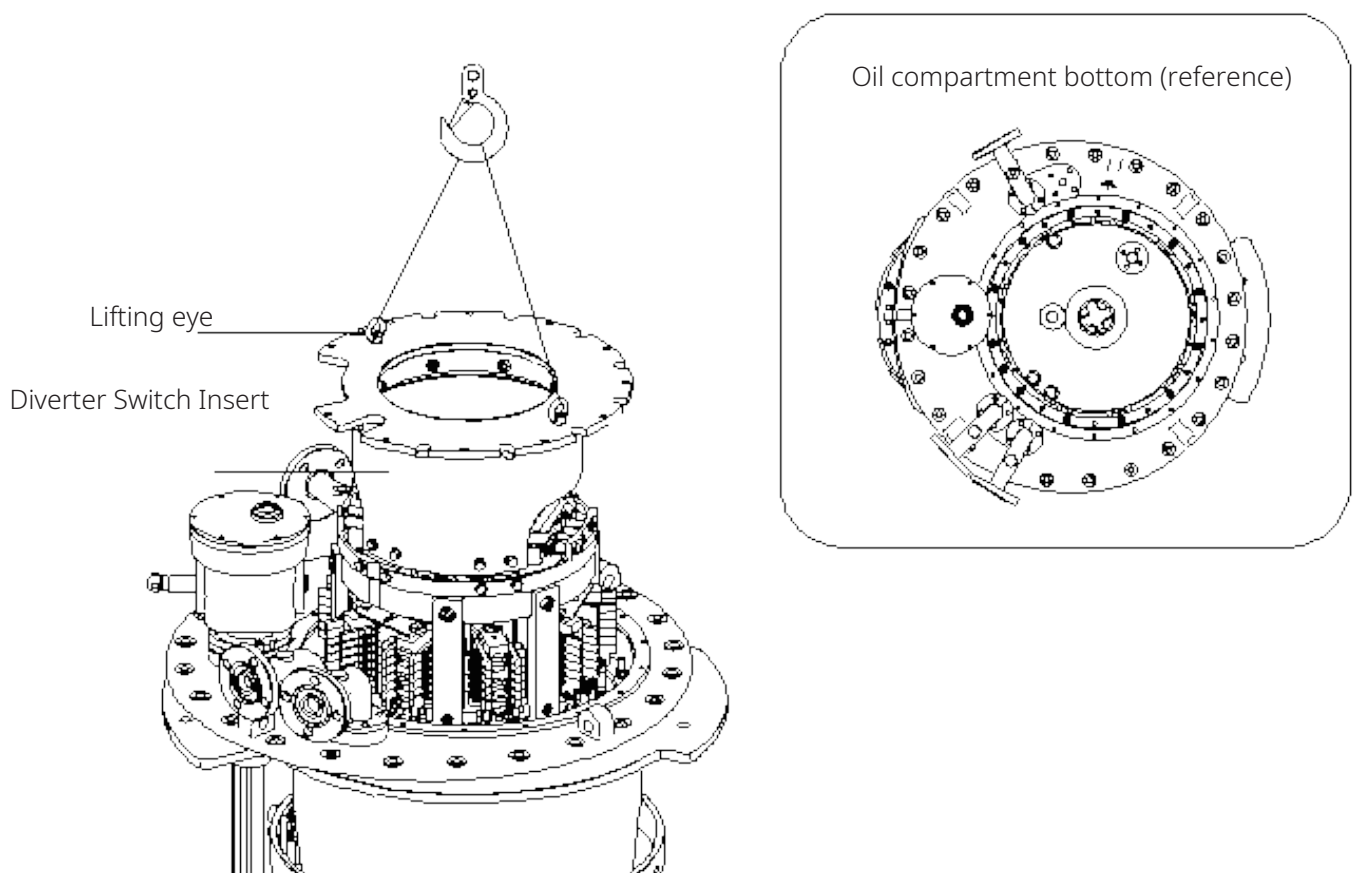

Figure 5-5 Vertically Lifting the Diverter Switch Insert
5. Slowly lift the Diverter Switch Insert vertically out of the oil compartment (see Figure 5-5).